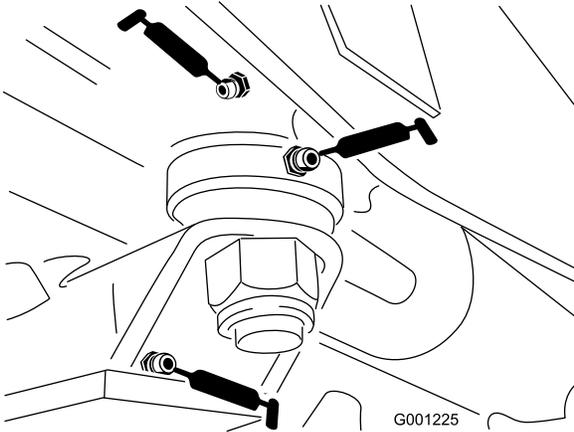

Figure 41
- Steering-plate bushings (Figure 41)
- Axle-pin bushing (Figure 41)